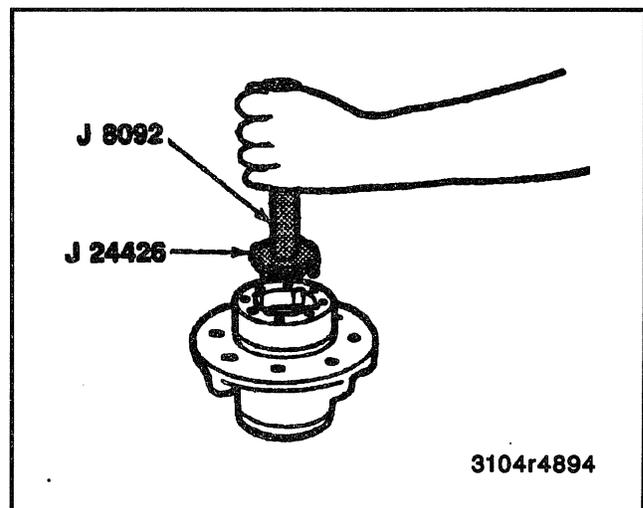

Figure 29—Removing the Outer Bearing and Cup
5. Outer bearing using J 8092 with J 24426 (Figure 29).